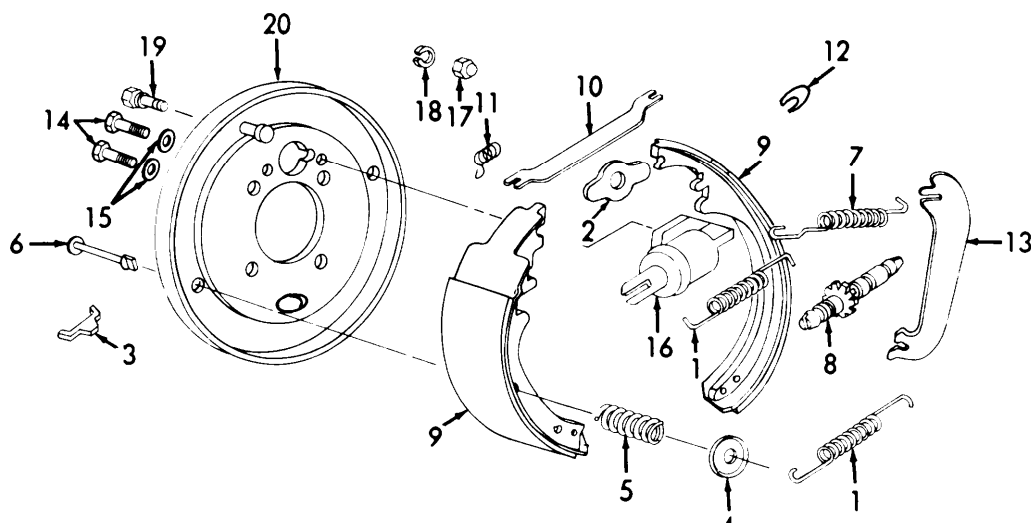

Figure 3-45. Brakes, Removal.
- (1) Remove brake hold down springs (1, Figure 3-45) guide shoe (2), and cover (3).
- (2) Remove hold down cup (4), hold down spring (5), and hold down rod (6).
- (3) Remove adjusting assembly spring (7).
- (4) Remove adjusting screw assembly (8) and both brake shoes (9).
- (5) Remove strut (10) and spring (11).
- (6) Remove retainer (12) and lever (13). Be sure to disconnect cable from lever (13).
- (7) Disconnect hydraulic line from wheel cylinder.
- (8) Remove two screws (14), two washers (15), and wheel cylinder (16).
- (9) Remove four nuts (17), four lockwashers (18), four bolts (19), and back plate (20).